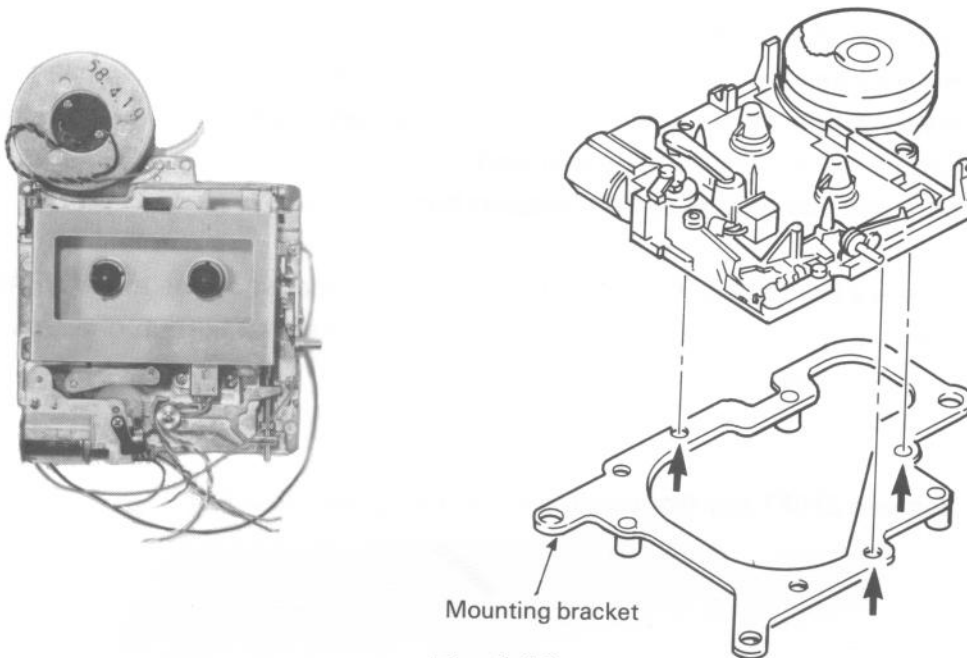

Fig. 4-19
- Step 2. Remove microcassette mounting bracket by loosening three screws which are marked with arrows on Fig. 4-19.